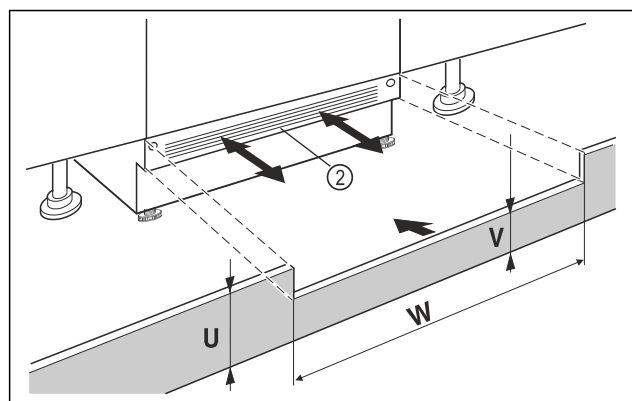

Fig. 39 Example illustration
- Put on the appliance base cover Fig. 39 (2) but do not fix it in place yet.
- If the base panel is visible Fig. 39 (2), pull it forwards so that the front edge of the ventilation grille and the unit base panel are level.
- If the base panel is concealed Fig. 39 (2), push it all the way back.
- Ensure that the ventilation slots are completely free: If necessary, cut the height of the unit base panel Fig. 39 (U) to size!
- Adjust the web height Fig. 39 (V) under the appliance base panel Fig. 39 (2) along the niche width Fig. 39 (W).